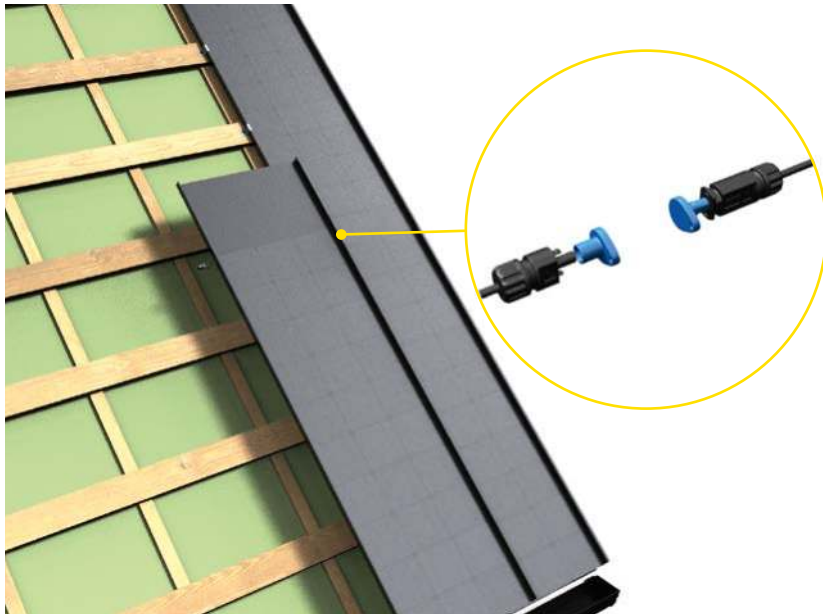

Fig. 15
**4.1** Once first column is fastened on the roof, **second and the rest of the columns are fastened after junction cable are connected** (Fig. 15), and the locks are sealed by first using first hand tool (Fig. 16 a), and double lock by using the second hand tool (Fig. 16 b).